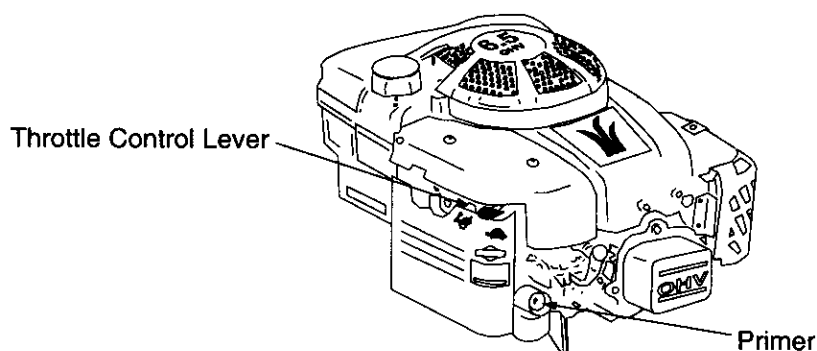

FIGURE 8
The primer is used to pump gas into the carburetor. Use it to assist in starting a cold engine, but do not use it when restarting a warm engine after a short shutdown. Refer to Figure 8.
- Slide the throttle control lever toward the turtle (front of the engine) to slow the engine's RPM. Slide the throttle control lever toward the rabbit (rear of the engine) to speed up the engine's RPM. See Figure 8.